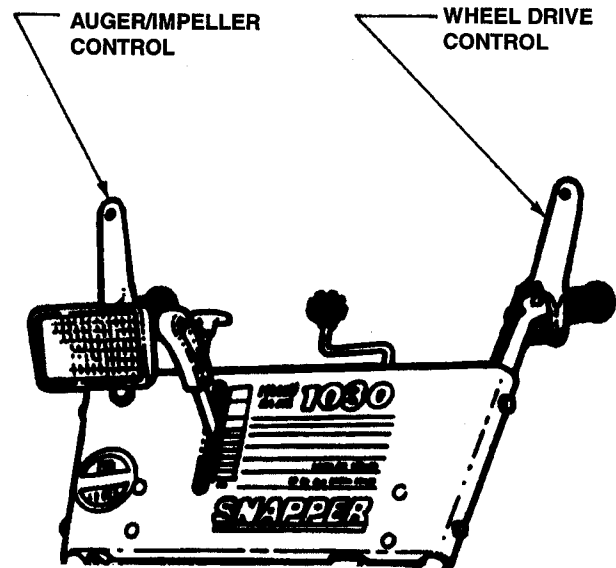

FIGURE 2.6
1. Move auger/impeller control lever against handle to engage auger/impeller. See Figure 2.6.
1. Move wheel drive control lever against handle to engage wheel drive. Ground speed can be changed while the machine is in operation by changing position of the ground speed control. **IMPORTANT:** This snow thrower has six forward speeds and one reverse speed. See Figure 2.6.
1. Pull auger/impeller control lever against handle to engage auger/impeller. Refer to Figure 2.6.